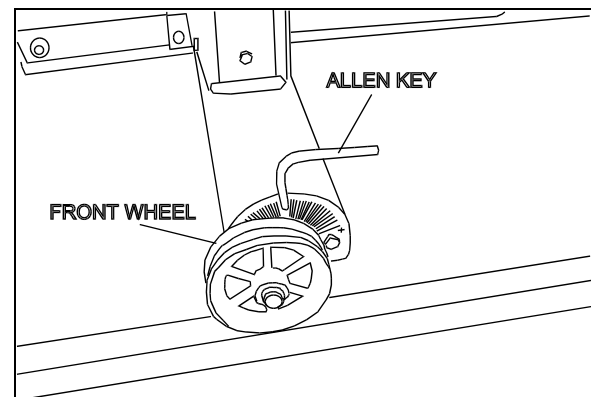
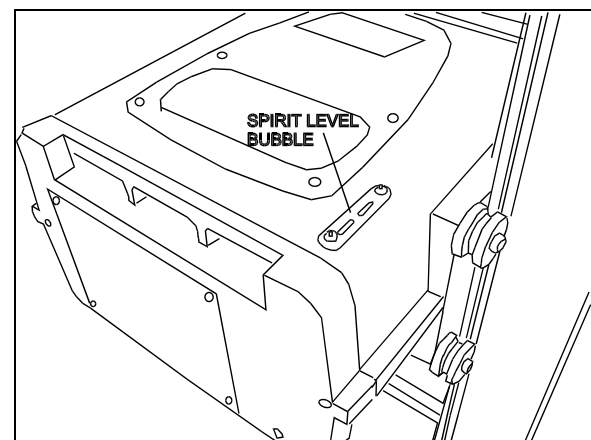

FIGURE 43: ADJUSTING HOOPY 100 LEVEL 06498
FIGURE 44: SPIRIT LEVEL 06500
6. Using an Allen key on the front wheel, level Hoopy 100 aligner until spirit level bubble is centered (Figure 43 and Figure 44).